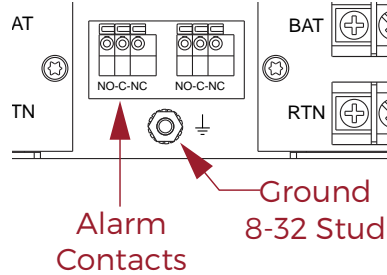

Figure 7. Alarm Contact & Ground Detail
Each terminal is a no. 6-32 screw and is rated at 30 amperes. Wire sizes from no. 10 AWG up to no. 22 AWG may be used for connections. Figure 7 below shows detailed spacing of the terminals.
9.5 Form C Relay Contact Outputs. The center of the back panel has connections to the Form C relay contact outputs for connection to external audible or visual alarm circuits. See Figure 7.
- 11.2 Connections.** Input connections should be made with one- or two-terminal crimp type lugs using copper wire size from no. 1 to 8 AWG, depending on current and wire loop distance. See Sections 9.2 and 9.3. Output connections are made to the barrier terminal strips. See Section 9.4 and Figure 7.